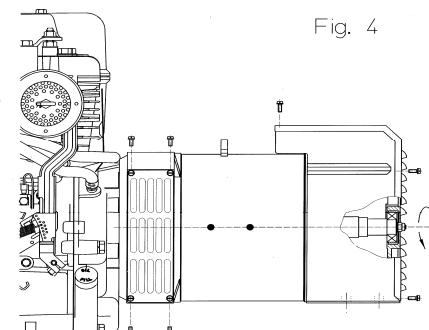

Fig. 4
-) block the central stay rod, applying a tightening torque of $21\pm7\%$ Nm if you are using stay rods of M8, while if you are using M14 stay rods, apply a tightening torque of $120\pm7\%$ Nm; reassemble the lateral protective nets and the rear closing grid by applying a tightening torque of $3,5\pm7\%$ Nm to the M5 screws (figure 4).